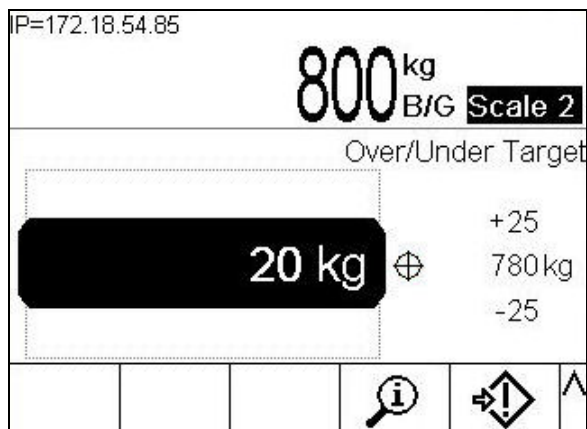
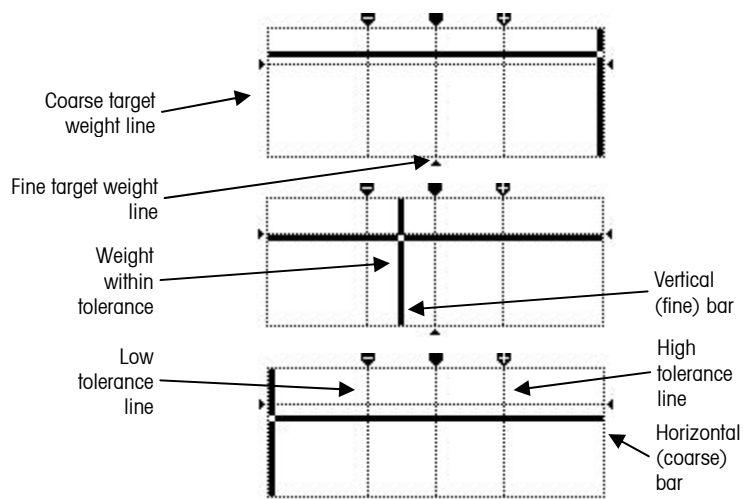

Figure 2-24: Example of Over/Under Display
Figure 2-28: Cross Hairs SmartTrac Displays, Off Target
The Over/Under SmartTrac visualization may be displayed in medium or large sizes. If the Target Table's Tolerance Type is Target Deviation or % of Target, the target value and the amount of deviation from it are shown, together with a graphic indicating the direction of deviation (Figures 2-24 and 2-25). If the Target Table's Tolerance Type is Weight Value, only the graphic display appears indicating whether the current value is above, within or below the acceptable range (Figure 2-28). In either case, a black oblong indicates that the current weight is within the acceptable range.
Figure 2-28 shows three cross hairs displays. From top to bottom, they are above high tolerance; in tolerance range but below target; and below low tolerance. The horizontal bar moves vertically as the measured weight approaches the tolerance range, giving a coarse indication of the relationship between current weight and target weight. The vertical bar begins to move when measured weight approaches the lower tolerance line, giving a fine indication of the relationship between current weight and target weight. The intersection of these bars indicates the current weight.
1. Press the REPORTS softkey . The Reports Run screen appears (Figure 2-28).